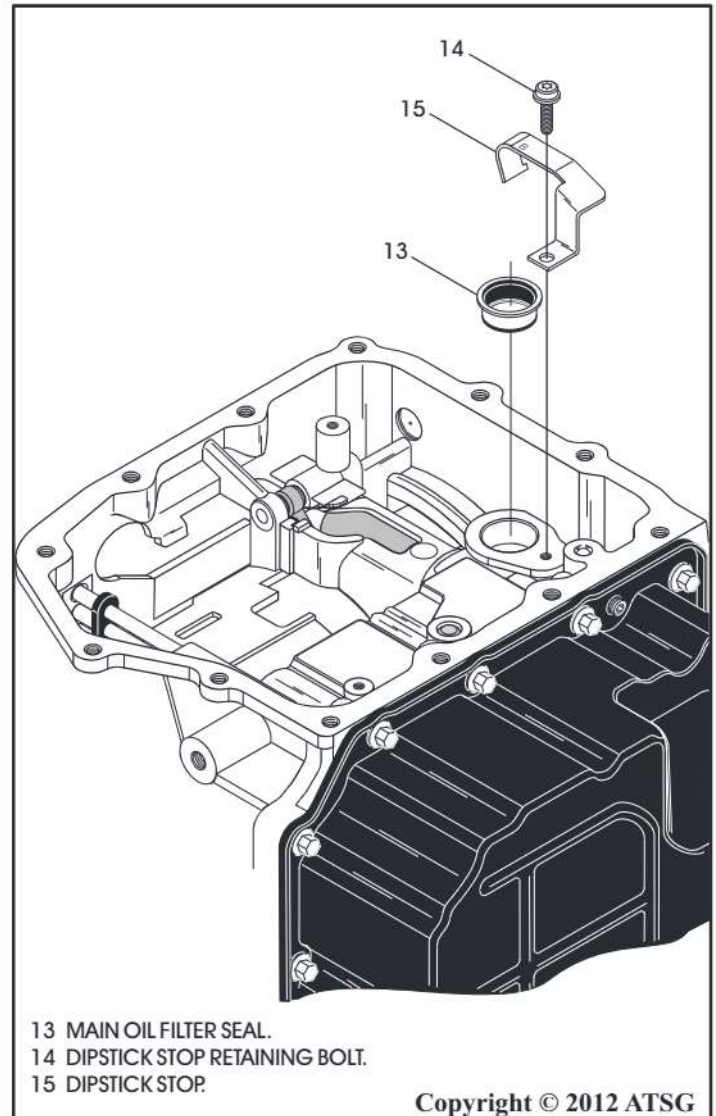

Figure 45
12. Remove and discard the main filter seal from the case bore, as shown in Figure 45.
13. Remove the dipstick stop from the case using a 25 torx bit, as shown in Figure 45.